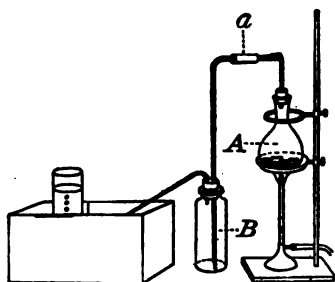

Fig. 38.
Supplies: apparatus in Fig. 38,  $\text{NH}_4\text{NO}_3$ .
1. Arrange the apparatus as in Fig. 38. Connect a flask *A* (of 200cc capacity) with an empty bottle *B*, and from the latter lead a delivery tube to a pneumatic trough on the shelf of which are two or more inverted receivers filled with water. Have the bearings all tight.